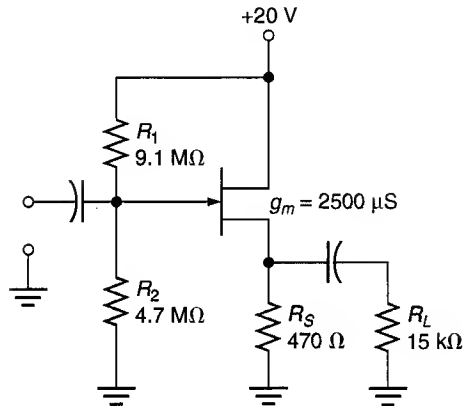

FIGURE 12.68
41. Determine the ranges of A_v , Z_{in} , and Z_{out} for the amplifier in Figure 12.68.